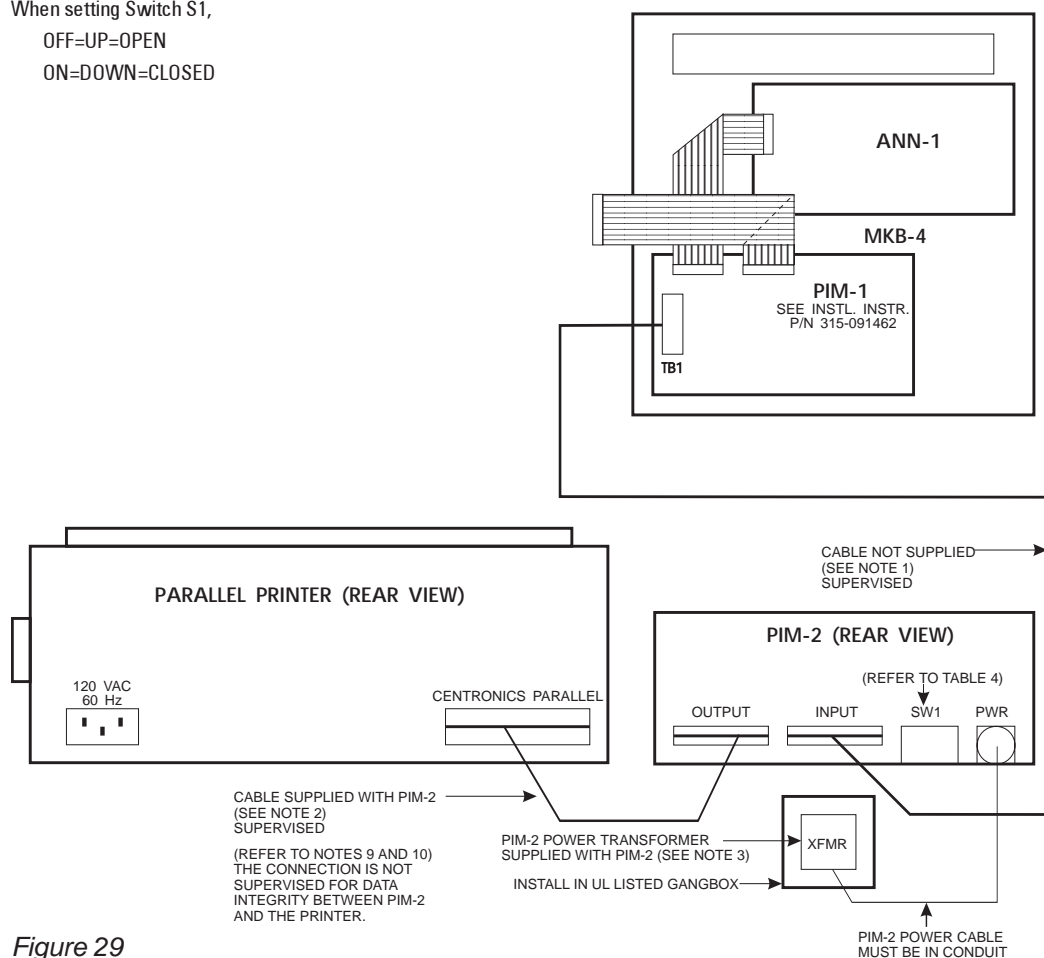

Figure 29
- Figure 29 shows the proper installation of the PIM-2 with the MXL-IQ system.